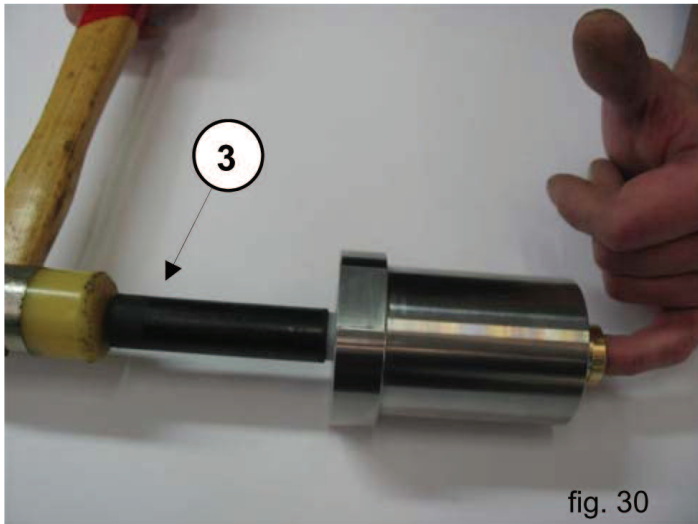
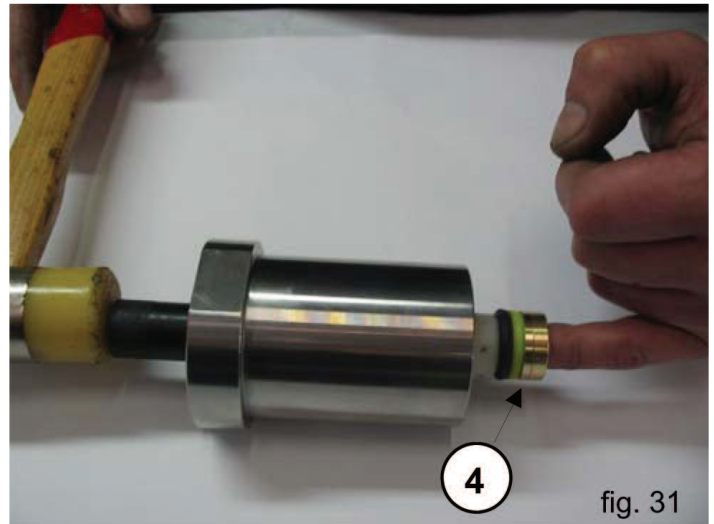

fig. 30
fig. 31
- E) With the liner separated from the support, and with an opposite plastic pin, #3 as shown in fig. 30, push out the H.P. (high pressure) packing, #4 by operating as in fig. 31.
At each disassembly, the HP packing, #4 fig. 31, must be replaced.